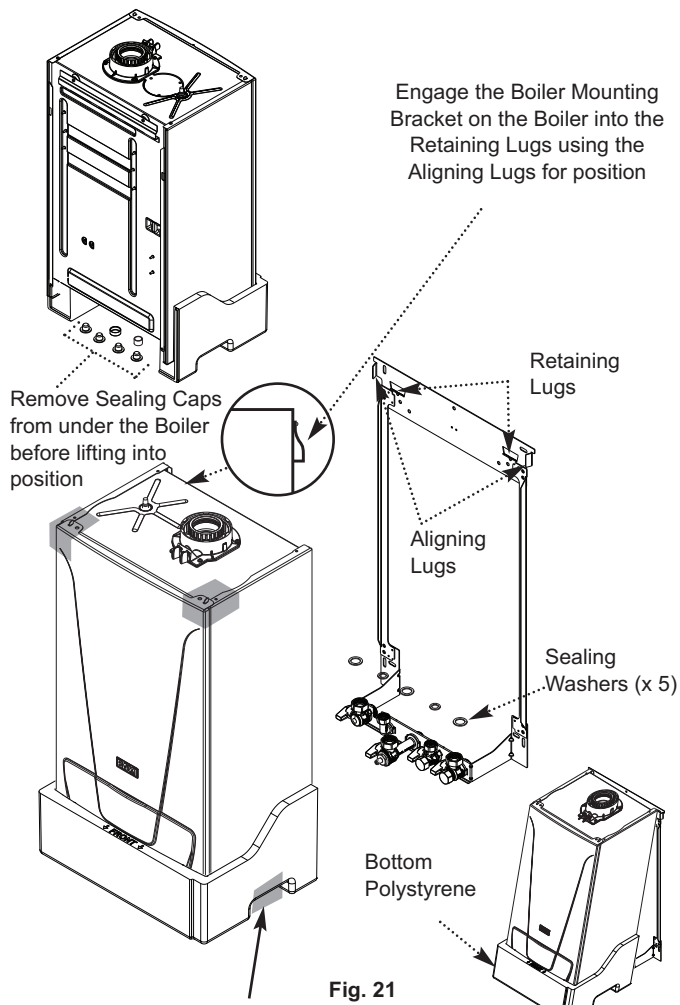

Fig. 21
2. Lift the boiler as indicated by the shaded areas. The boiler should be lifted by TWO PEOPLE. Engage the mounting bracket at the top rear of the boiler into the retaining lugs on the wall jig using the aligning lugs for position (Fig.21) (see 'Handling' section 2.3.1).